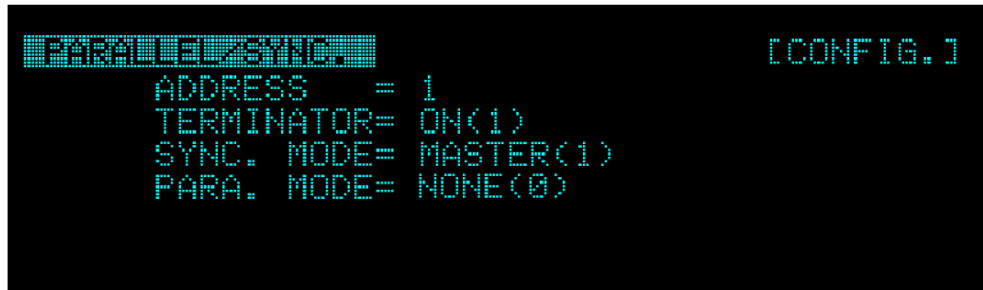

Figure F-8 SYNC. MODE Setting Screen
The System Bus Address has to start from 1 for the MASTER and each SLAVE must increase the number sequentially without skipping the number as Figure F-8 shows.
When setting the terminal resistance, this function on the first and last single devices in the SYSTEM BUS network must be enabled, and the remaining intermediate slave devices must be set to OFF as Figure F-8 shows.
5. Set the SYNC. MODE status of each standalone device by selecting MASTER(1) or SLAVE(2) according to the set System Bus Address shown in Figure F-8.